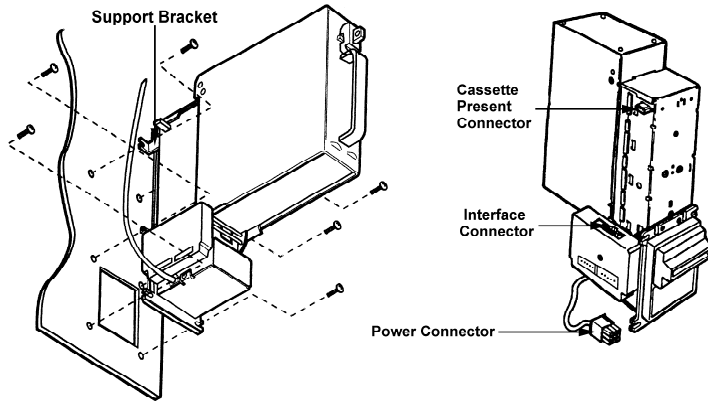

Figure 4. Mounting / Harness Connections
1. Connect the power harness to the 9 pin power connector of the Bill Acceptor (Figure 4). Connect the 18 pin connector of the interface harness to the 18 pin connector socket on the control board (Figure 4). Connect the 2 pin cassette present harness (if applicable) to the cassette present connector (Figure 4).
2. It is recommended to use a *Support Bracket* (kit # 111638145) for the stacker housing when using any cassette larger than 600 bills, see figure 4.